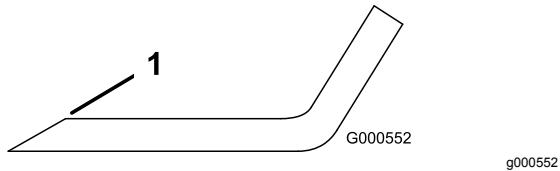

Figure 65
1. Use a file to sharpen the cutting edge at both ends of the blade (Figure 65).
**Note:** If the blade is not balanced, file some metal off the end of the sail area only (Figure 65).